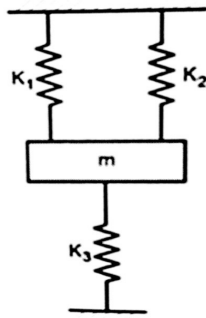

Fig.2.
- B) Find the natural frequency of vibration of the system shown in Fig.2. (K₁= 1000 N/m, K₂ = 1000 N/m, K₃ = 2000 N/m, m =10 kg) CO6 6